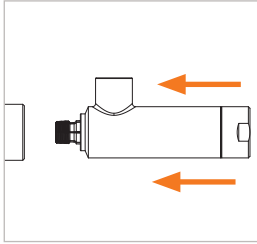

Figure 11
- ▶ With the pilot pressure applied, insert the connector straight into the test piece until the front seal (Pos. 7) touches the test piece (*Figure 11*). Doing so will prevent any damage to the front seal caused by any sharp edges on the test piece and ensure a correct connection.